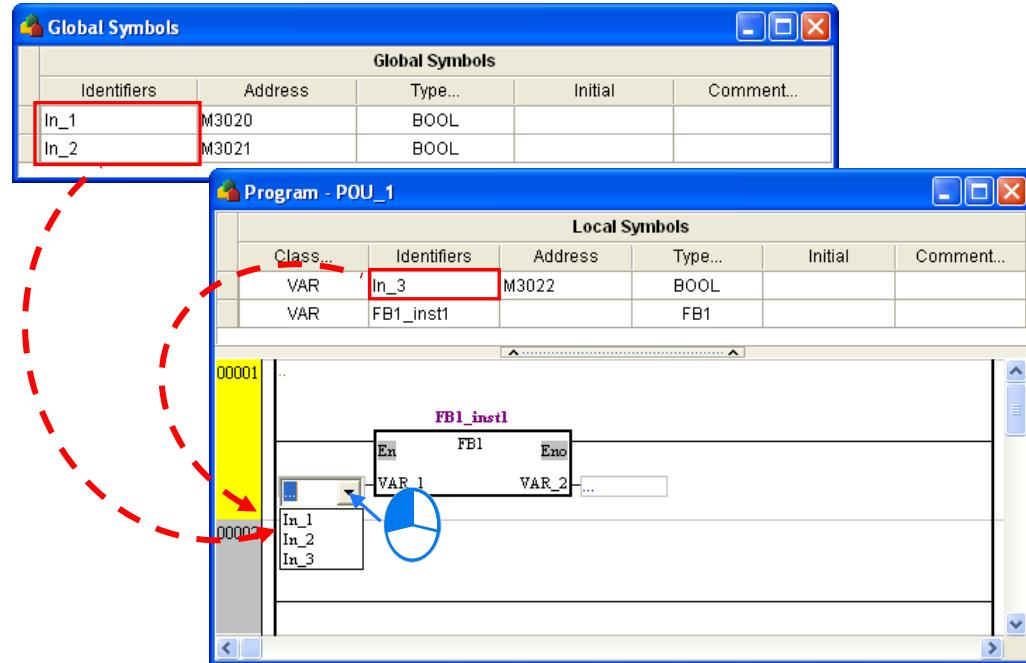

Figure 13-29 Selecting a symbol which has been declared for a pin
- If users have declared symbols in the global symbol table or in the local symbol table in a POU, a drop-down list on which there are symbols whose data types are the same will appear after the users click a pin of a function block in the POU. Please see figure 13-29.